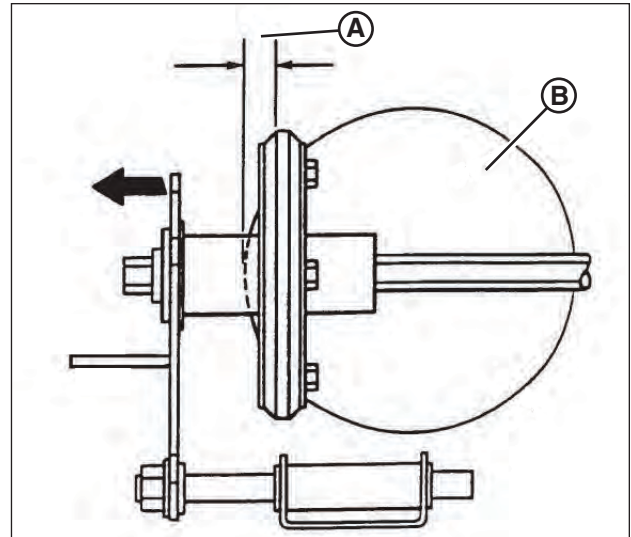

Figure 28: Proper driven disc adjustment
3. Slide the driven disc assembly over to 1/8" (A, **Figure 28**) from the outside edge of the drive disc (B).